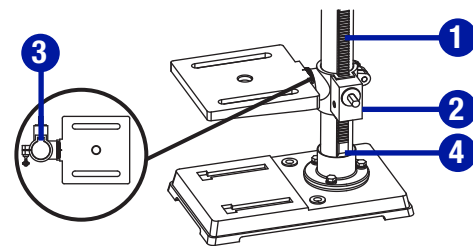

Fig. 3
**TABLE TO COLUMN (Fig. 3–5)**
- Insert the rack (1) into the geared groove of the table support (2). Make sure the worm shaft (3) on the inside of the table support is engaged with the teeth of the rack. The table support should sit at the centre of the rack.
- Slide the table support and rack assembly (1, 2, 3) down together onto the column. Insert the bottom edge of the rack into the lip (4) of the column support. **HOLD IN THIS POSITION** until the next step is completed.
- Place the collar (5) bevel side down over the rack. Tighten the set screw (6) with the 3 mm Allen wrench to hold the rack in position.